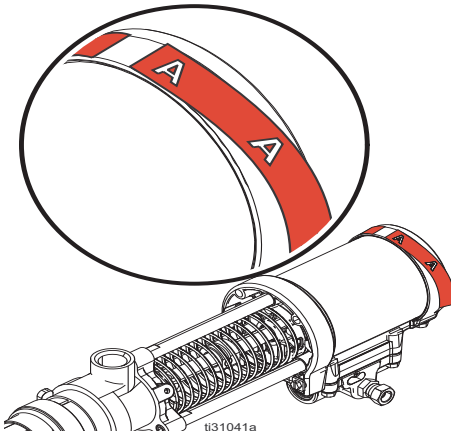

FIG. 7
3. Use labels provided to identify the appropriate pump for your material. See FIG. 7.